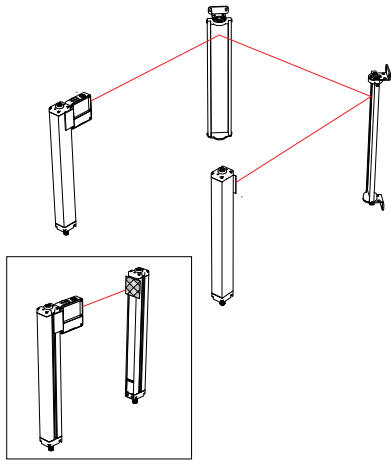

Figure 25. Optical alignment using the LAT-1-SS
**Note:** A LAT-1-SS Laser Alignment Tool is very helpful by providing a visible red dot along the optical axis. See Figure 25 on page 34 and Banner Safety Applications Note SA104 (p/n 57477) for further information.